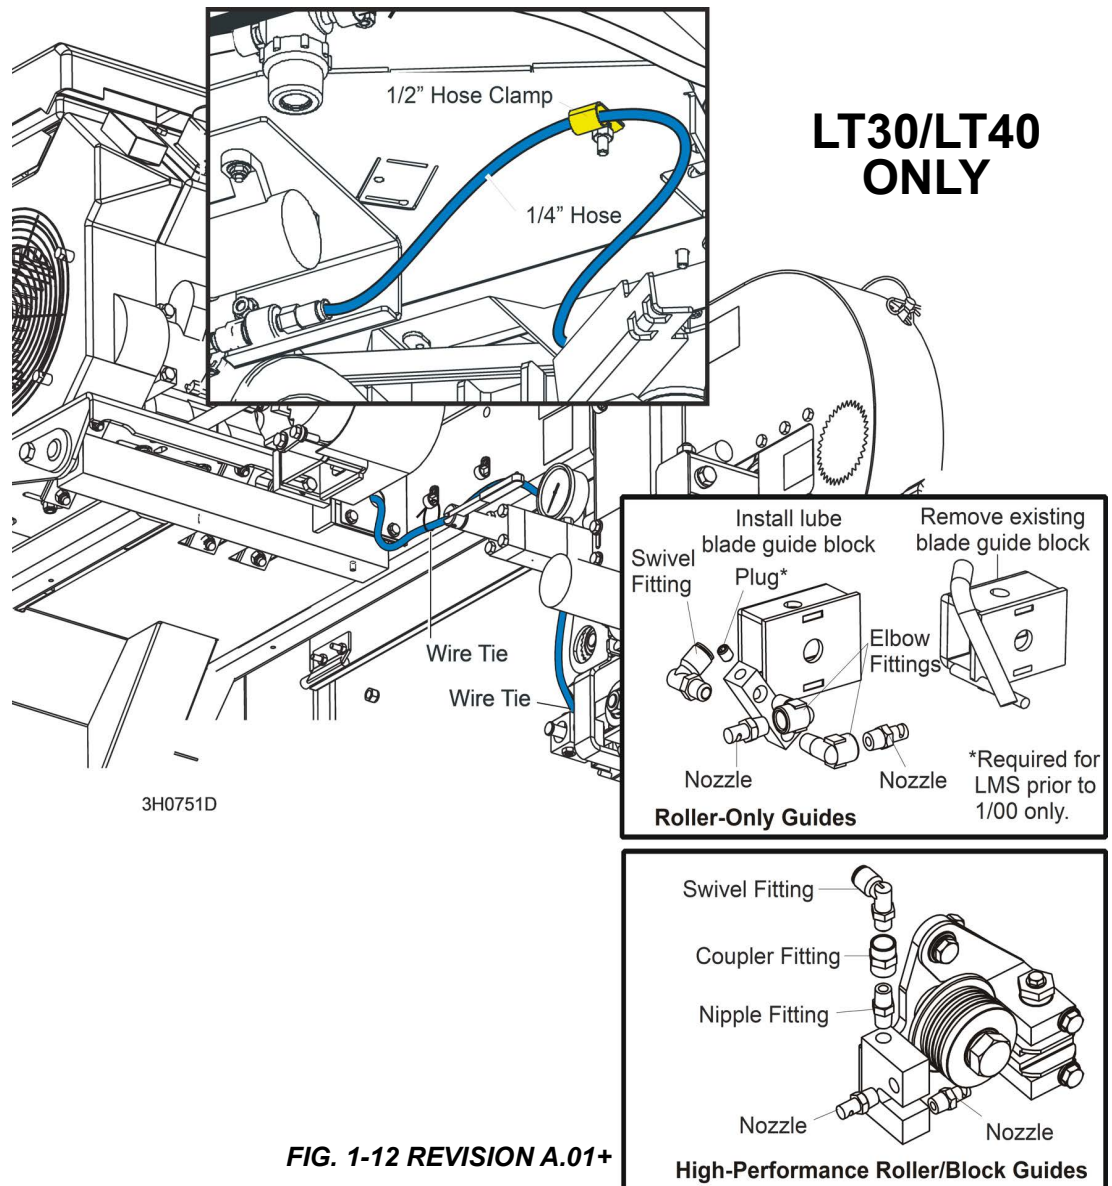

FIG. 1-12 REVISION A.01+
8. Locate the provided 1/4" hose. Insert one end to the pump valve as shown in FIG. 1-12.